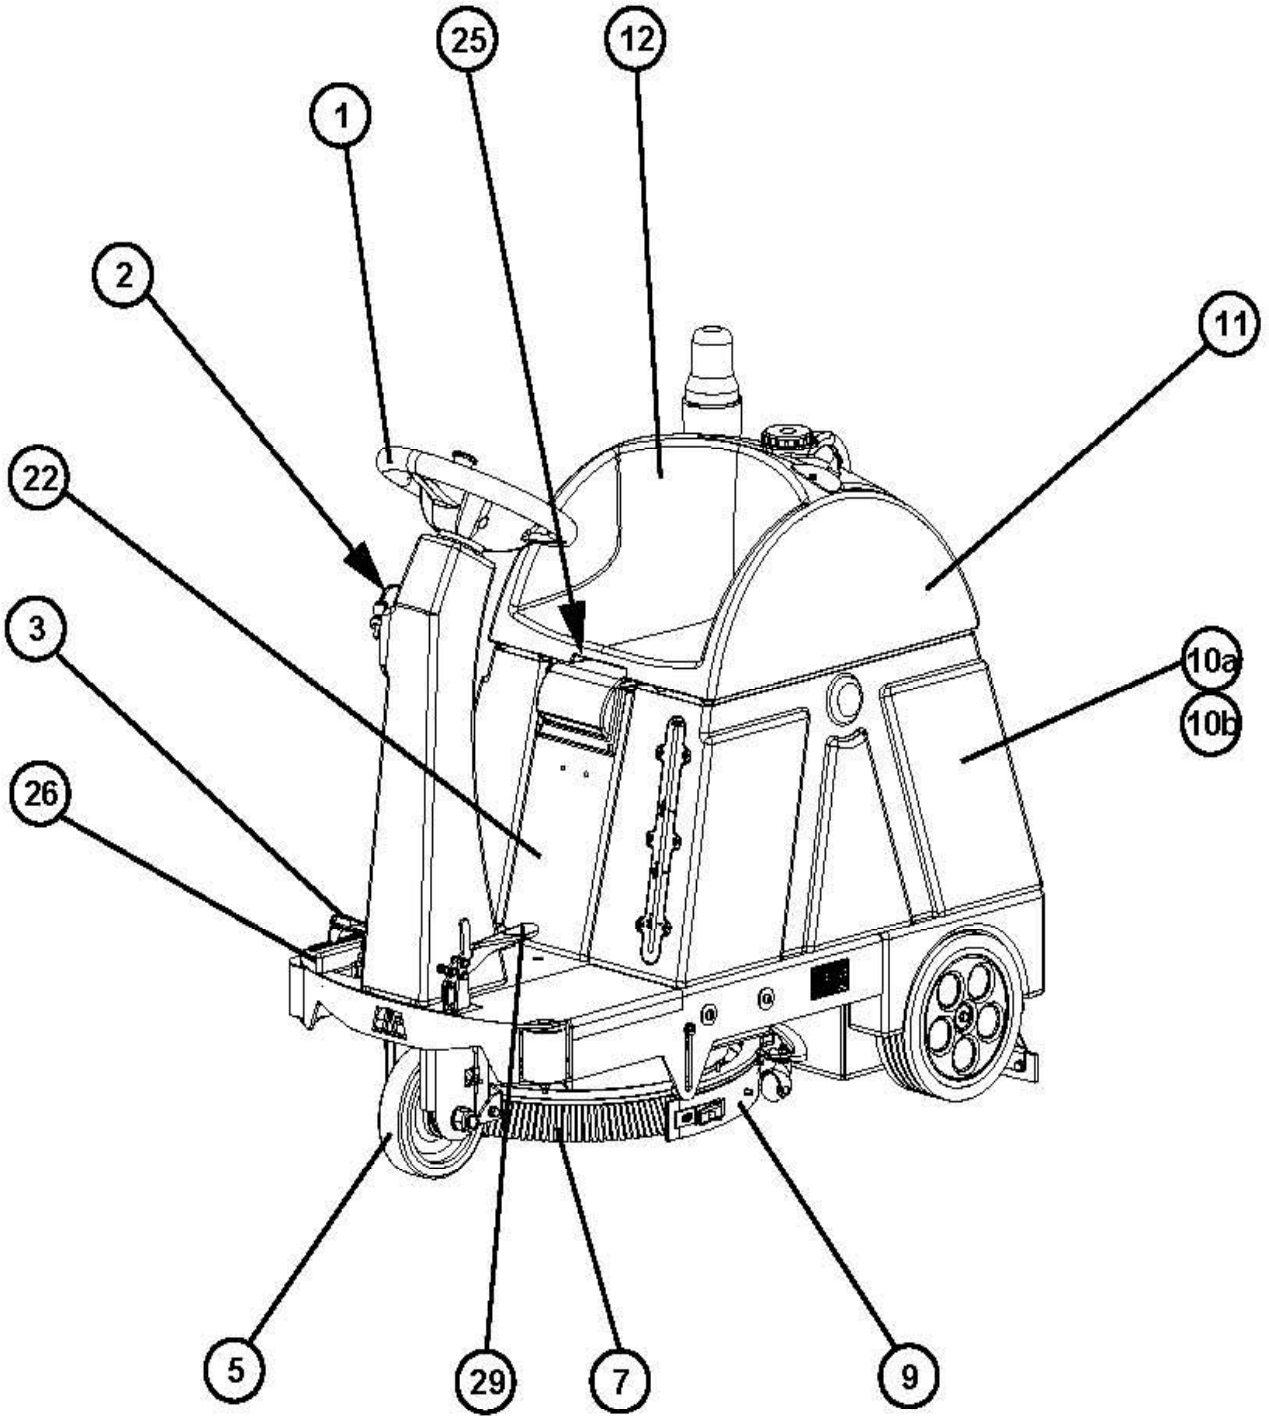
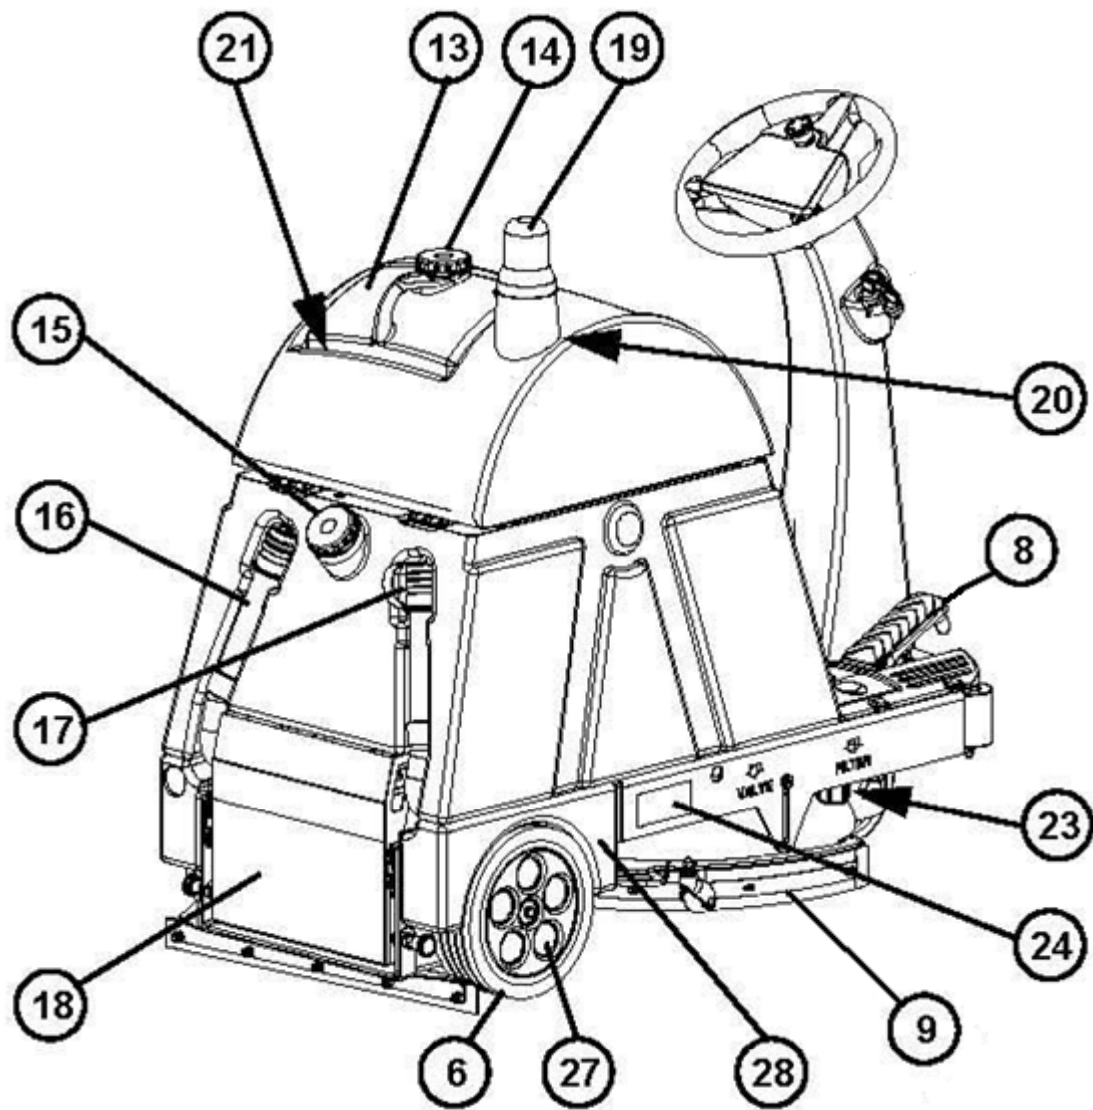

Figure 3-2
Figure 3-3
- **(See Figure 3-2 and Figure 3-3)**
3. Turn the ignition key (2, **Figure 3-2**) to position "0".